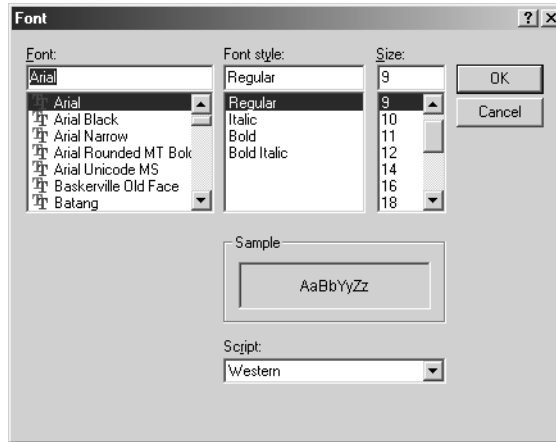

Figure 26. Font Window
6. Lock the Calibration Adapter onto the Model GX-2001 into place by pressing the black button on the right side of the Calibration Adapter. (Refer to Figure 26.)